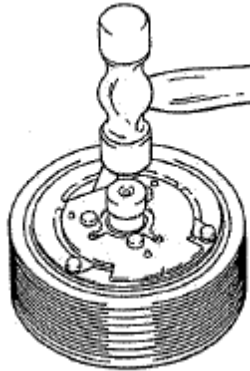

Figure 12-10
- (3) Align keyway in armature assembly to shaft key. Using driver and a hammer or arbor press, drive the armature assembly down over the shaft until it bottoms on the shims. A distinct sound change will be noted if driving with a hammer. (Ref. figure 12-10)